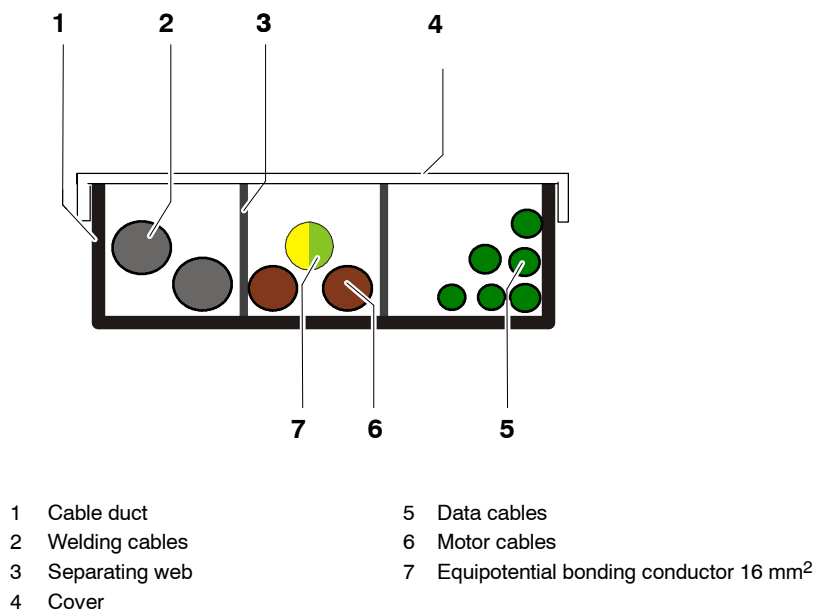

Fig. 60 Routing of cables in cable ducts
- Route the motor cables and the control cables separately in metal ducts (Fig. 60); if necessary, additional measures must be taken to ensure electromagnetic compatibility (EMC).